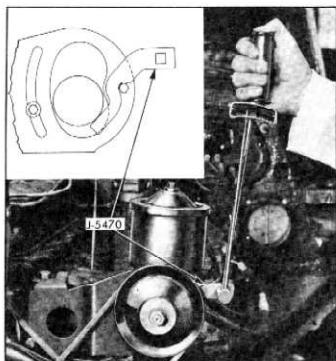

Fig. 24—Adjusting Pump Belt Tension
3. Attach a torque wrench to Belt Tension Adjusting Tool, J-5470, and insert tool between pulley and pump with inner end of tool resting under pulley hub and notch in tool over the head of the outer fixed mounting bolt (fig. 24).